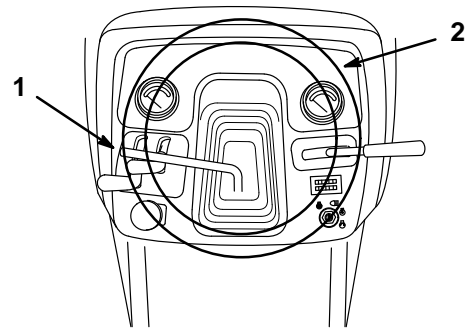

Figure 24
1. Lift the tilt lever to release the lock (Fig. 24).